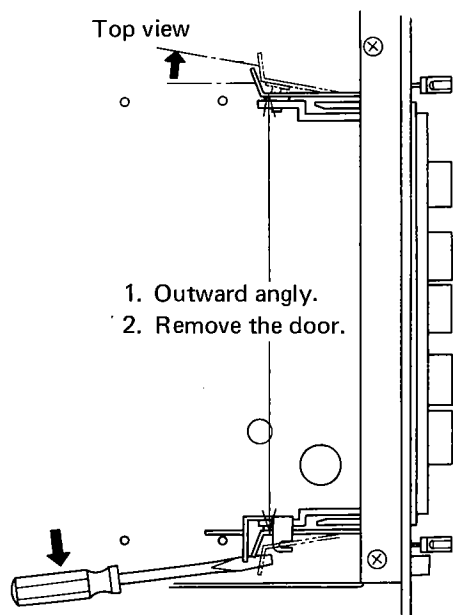

Fig. 29
10.7 REPLACING PLASTIC DOOR (Fig. 29,30)
3. Use a screwdriver to bend the angles shown in Fig. 29 outward and remove the door.